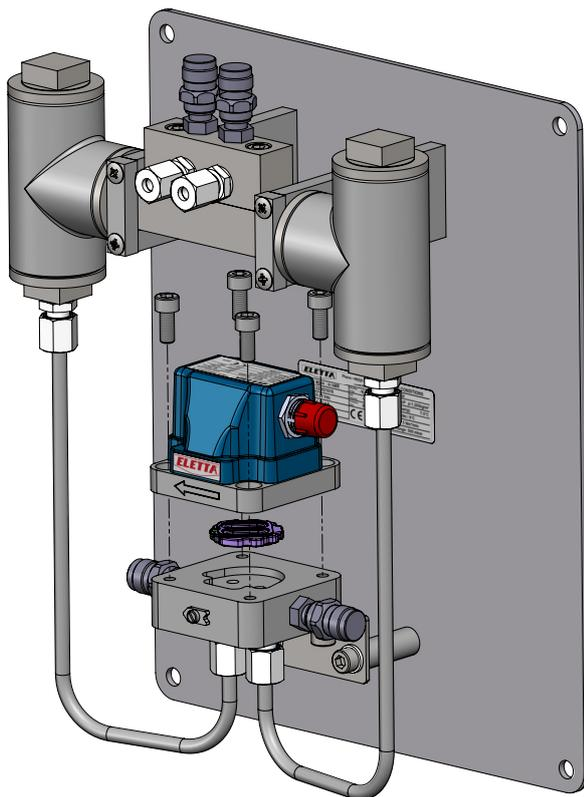

Fig. 10
At the time of ordering, the flow direction is specified and decides how Eletta Steam shall be mounted, i.e. from which side the media enters the Pipe Section. (See **Fig. 10** for alternatives.) If, for some reason, Eletta Steam is ordered with the wrong flow direction or the production process is altered, it is possible to change this on-site.
2. Remove the four (4) Allen screws, which attach the Control Unit to the Base Unit Steam. (See **fig. 10** below)